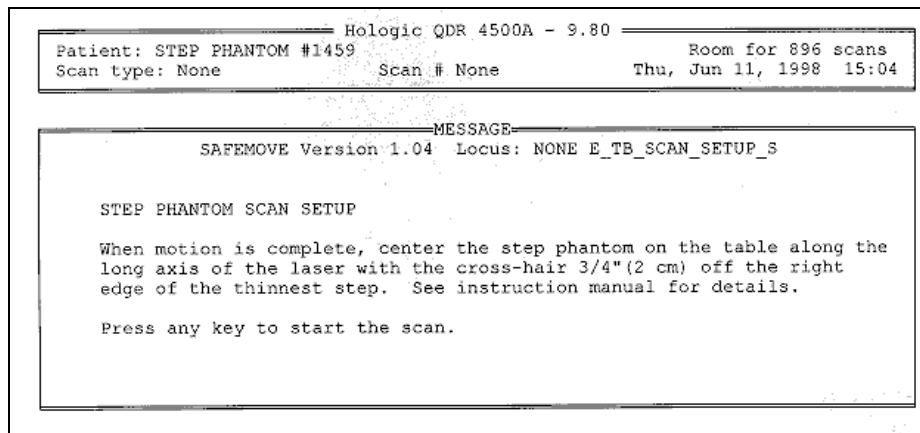

Figure 6-11. Step phantom QC setup screen
- At the 'QC Selections' menu choose 'Step Phantom Scan' and press 'Enter.' This will bring up the 'Step Phantom Scan Setup' screen. See Figure 6-11.
- Place the four clear Acrylic blocks (A1, A2, A3, and A4) on the scanner table as shown in Figure 6-11. The blocks should be oriented with the long axis of the blocks along the length of the table.